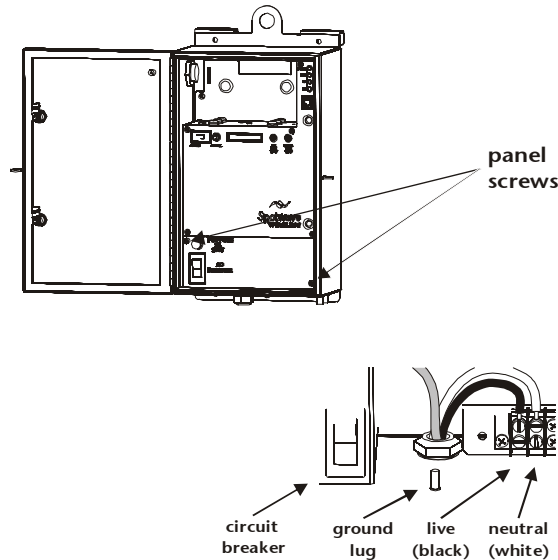

Figure 4.3 ARU Interior Panel and AC Power Connection
4. Open the ARU front door using an Allen wrench and ensure that the ARU circuit breaker is in the open or OFF position. Loosen the two front panel screws and remove the lower front panel - see Figure 4.3.